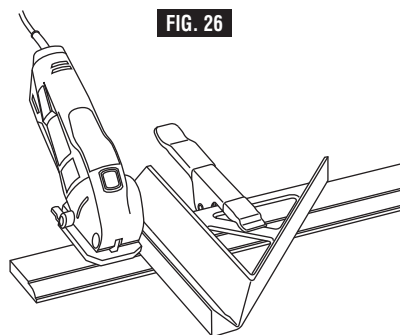

FIG. 26
3. Straight Cuts- use the outside edge of the cutting guide as the fence, (Fig. 26)